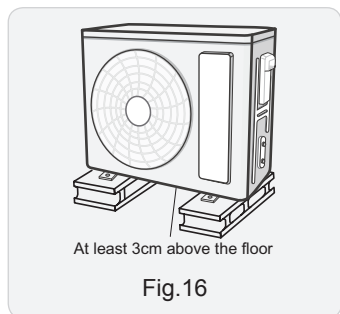

Fig.16
- (1) Take sufficient protective measures when installing the outdoor unit.
- (2) Make sure the support can withstand at least four times the unit weight.
- (3) The outdoor unit should be installed at least 3cm above the floor in order to install drain joint. (As show in Fig.16)
- (4) For the unit with cooling capacity of 2300W~5000W, 6 expansion screws are needed; for the unit with cooling capacity of 6000W~8000W, 8 expansion screws are needed; for the unit with cooling capacity of 10000W~16000W, 10 expansion screws are needed.